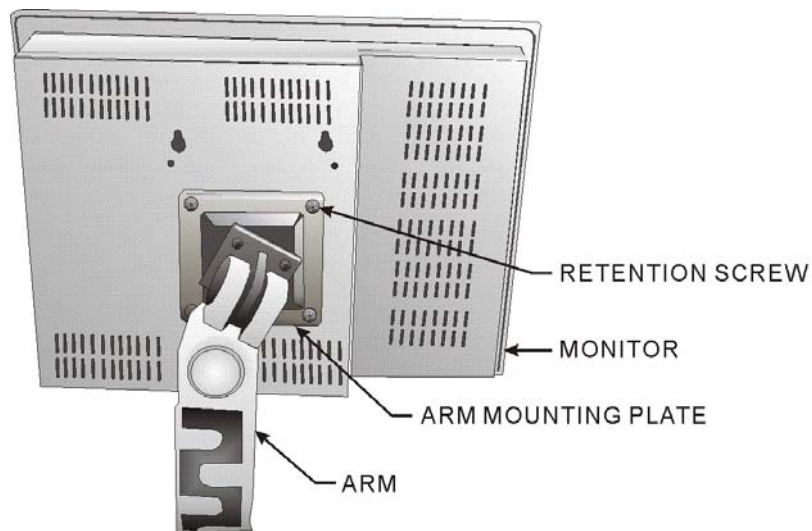

Figure 5-16: Monitor Arm Mounting
Step 2: Secure the monitor to the arm with the supplied retention screws (**Figure 5-16**).